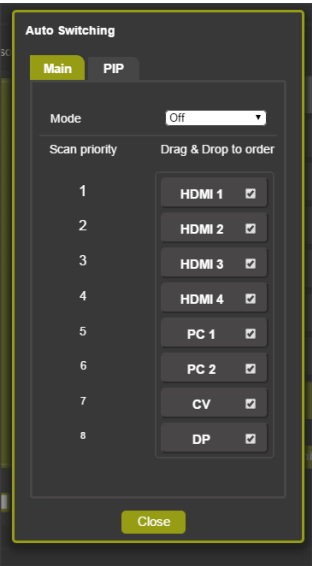

Figure 44: The Routing & Scaling Page – Auto Switching Window (Main Tab)
Click the Auto Switching button to open the Auto Switching window (see Figure 44). The Auto Switching window lets you set the Main and PiP scanning mode separately to:
When Scan mode is activated, the system scans the inputs from the highest to the lowest priority in search of a valid input signal for each the Main and PIP windows. The priority is ordered from the lowest input number (8) to the highest (1). For example, if PC 1 and HDMI 2 have a valid signal and auto switching is enabled, the **VP-773AMP** will scan through the inputs and select the HDMI 2 which is higher in the priority list (see Figure 44). Once the signal is no longer valid on HDMI 2, the **VP-773AMP** will scan for the next highest-priority valid signal.